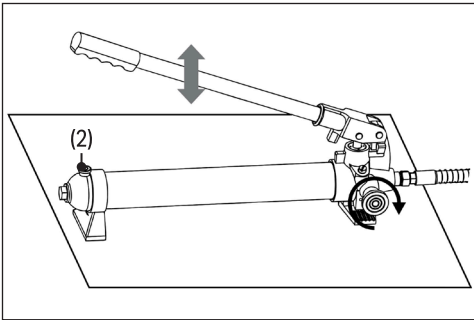

Fig. 3
6.4 To operate the pump - Fig. 3 & 4